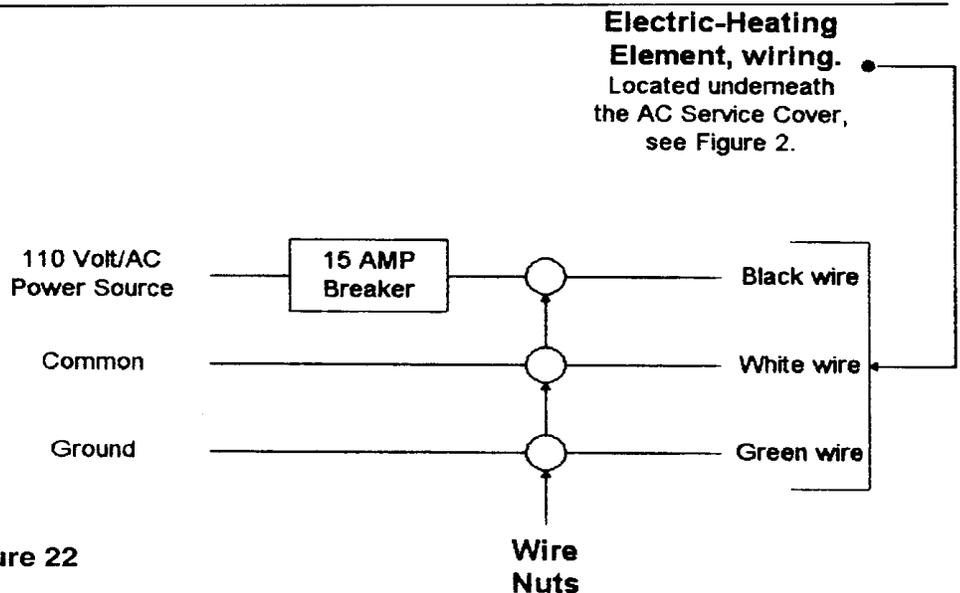

Figure 22
- B. Remove the service cover and connect the 110 volt AC power supply to the Aqua-Hot's electric heating element, see Figure 22.